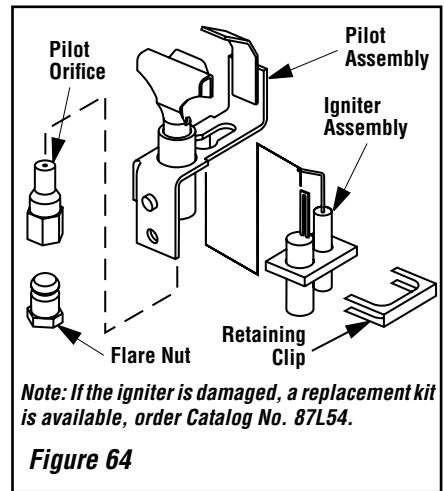

Figure 64
Step 8. See **Figure 64** and replace the pilot orifice as follows: Remove the igniter assembly retainer clip, and carefully remove the igniter assembly.